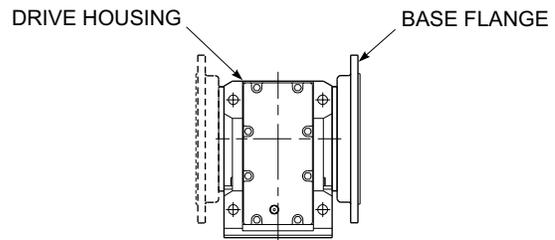

Figure 5
- Assemble output flange to drive (see Figure 5) and secure using the fasteners furnished. Torque fasteners to the value shown in Table 4 — Tightening Torques.